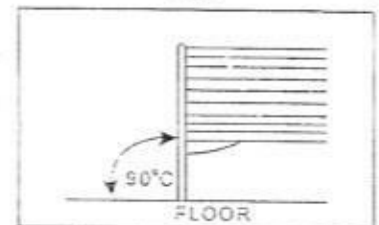

fig. 2
2. Check that the ends are at 90 to the floor, and that the ends are square to the slats (Fig 2)